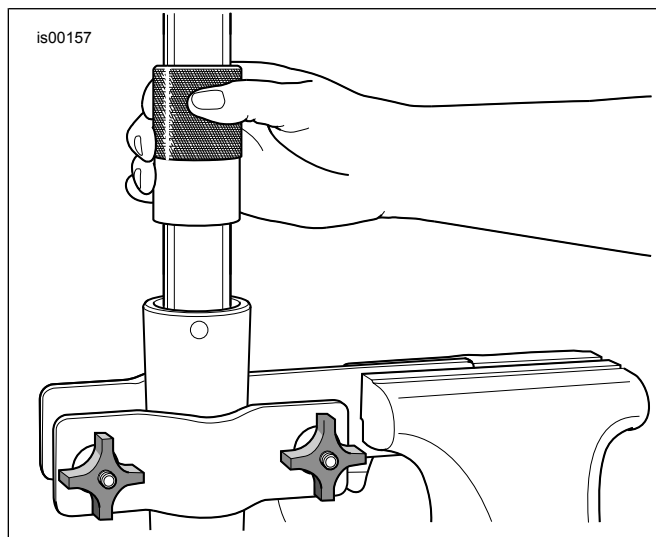

Figure 4. Install Fork Oil Seal
5. Coat inner diameter (ID) and outer diameter (OD) of slider bushing (E) with clean fork oil. Slide slider bushing down fork tube (either direction).
6. Slide spacer seal (D) down fork tube until it contacts slider bushing (either direction).
7. Coat the ID of the **new** fork oil seal (4) with clean fork oil. Coat the OD of the fork oil seal with Harley-Davidson Seal Grease. With the lettering side facing up, slide fork oil seal down the fork tube until it contacts the spacer seal.
8. See Figure 4. Obtain the Fork Seal/Bushing Tool (HD-45305) and proceed as follows:
- b. See Figure 4. Using the tool like a slide hammer, drive fork oil seal (with spacer seal and slider bushing) down the fork tube until retaining clip groove is visible in fork slider ID.